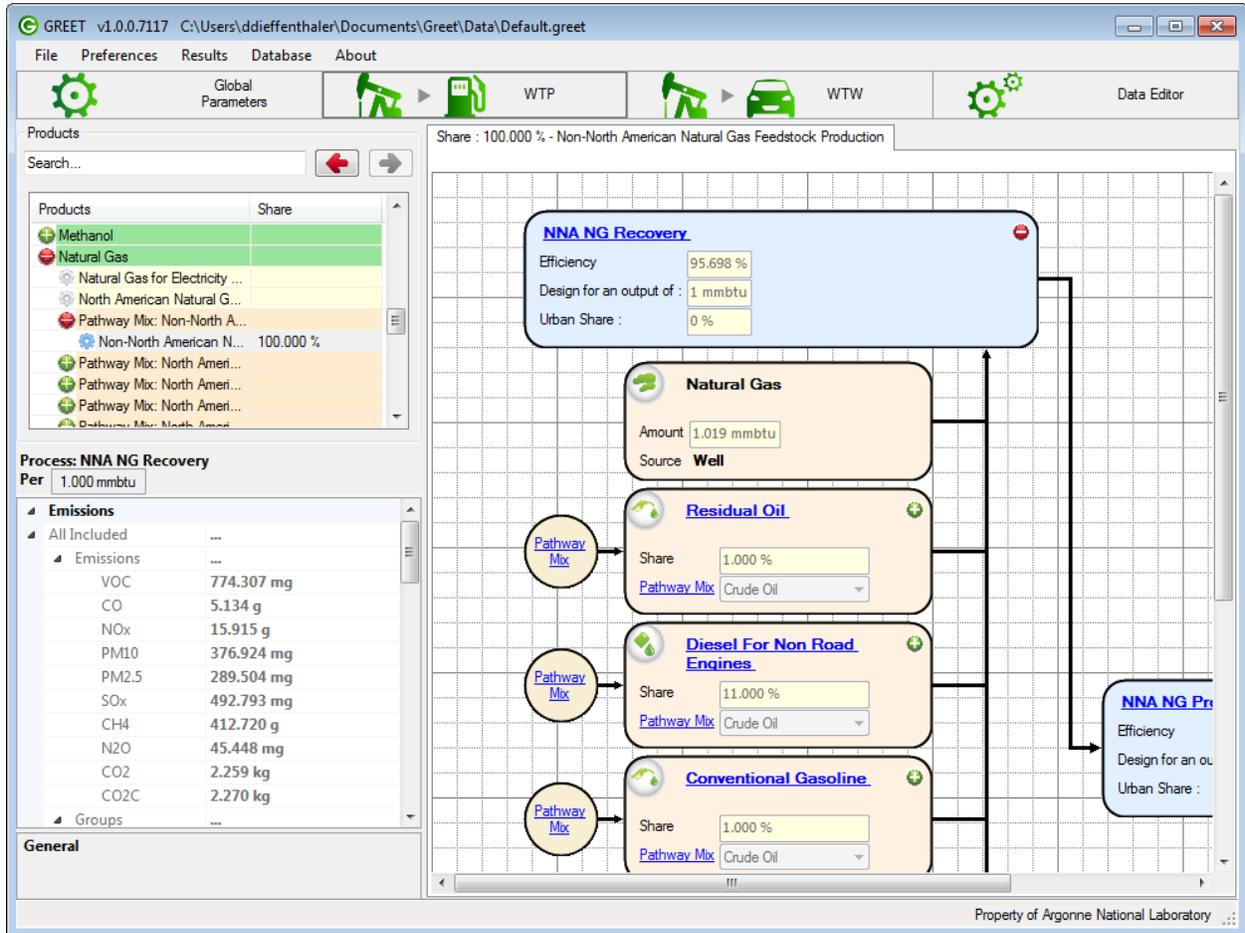

Figure 12: Well-to-Pump Pane Showing the Representation of a Pathway
The WTP pane has 3 zones, as shown on Figure 13. Zone 1 represents the Pathway-Mix tree. Zone 2 shows the results associated with the selected pathway. To select a pathway, expand a resource node or a Pathway Mix until you’ve reached an item that is not preceded by a plus or minus sign. In the example above, “Non-North American Natural Gas Feedstock Production” is selected and represented in Zone 3. Zone 3 shows either a representation of the pathway or a Pathway Mix. Figure 12 shows a pathway represented in the explorer and Figure 13 represents a Pathway Mix.
- Pathway Mix: When a Pathway Mix is selected in the Pathway-Mix tree (Zone 1 of Figure 12).
- Pathway: When a pathway is selected in the Pathway-Mix tree (Zone 1 of Figure 12).
- Process: When a process is selected in the pathway representation (Zone 3 of Figure 12).
- Step: When a transportation step is selected within a transportation process (Zone 3 of Figure 12).
- Input: When an input is selected in an expanded stationary process (Zone 3 of Figure 12).
- Technology: When a technology is selected in an expanded stationary process input (Zone 3 of Figure 12).